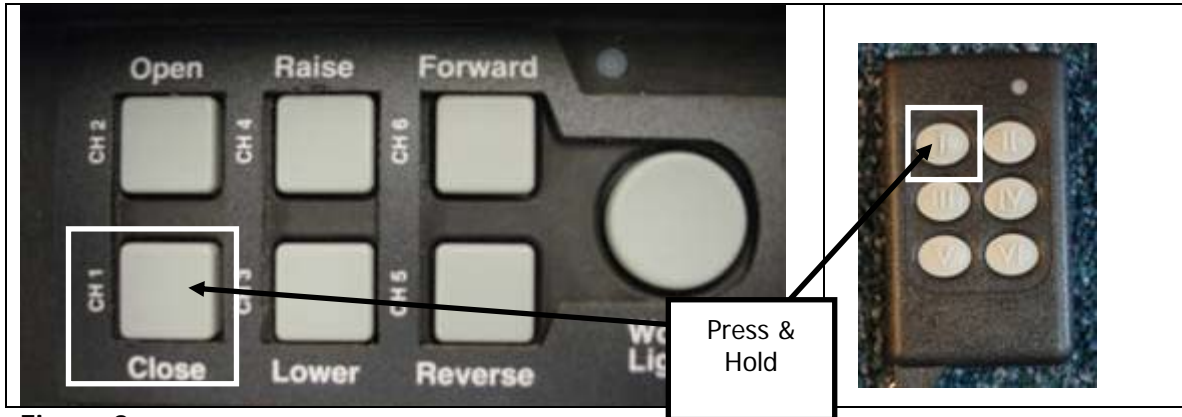

Figure 2
- 2) Always deploy 2-3 feet of tarp before moving the tower and/or pivots. To deploy tarp press & hold button 1 on the control box or the key fob (see Fig. 2), or on non remote systems there will be switch to wind and unwind your tarp. In rare cases with stationary pivot systems you may have to do this before pulling container all the way onto the truck/trailer.